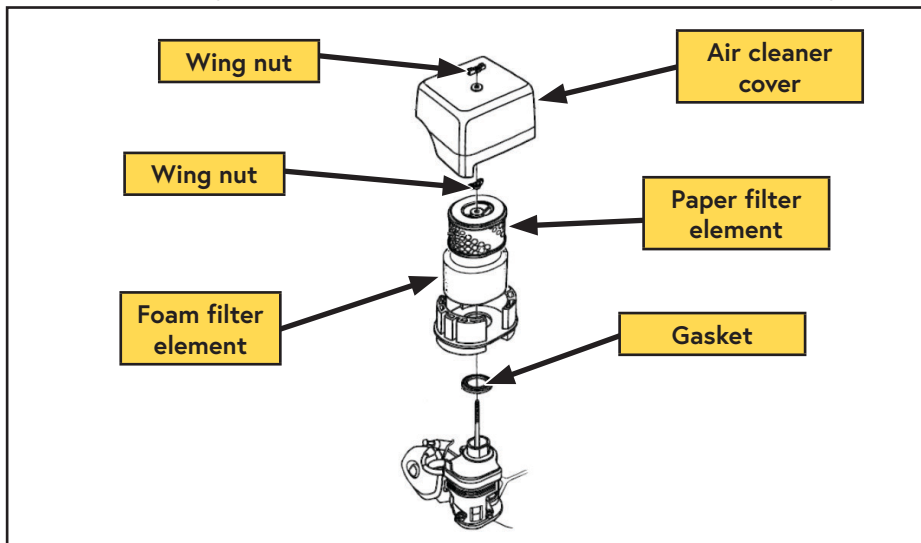

Figure 45 — Replacing the dual element air filter
- Remove the wing nut from the air cleaner cover, and remove the cover (Figure 45).